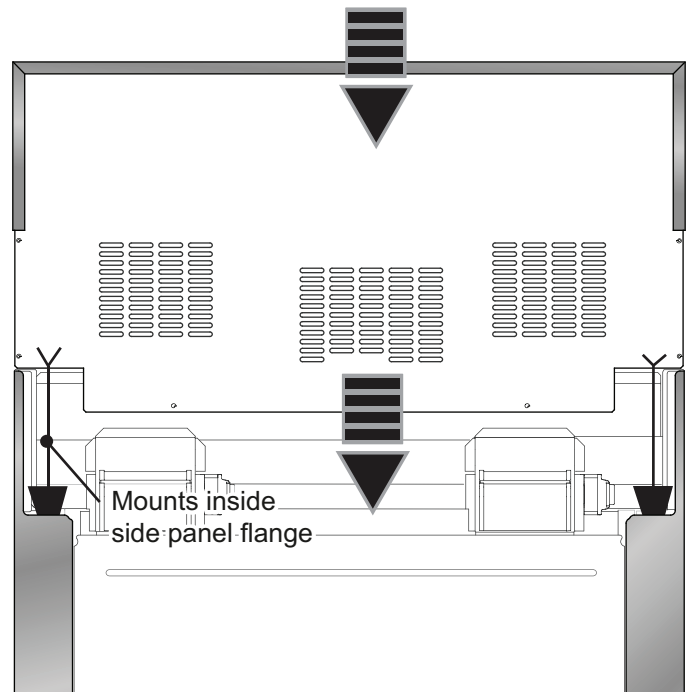

Figure 19: Backguard Installation
3. Align the back panel of the new accessory with the flanges on the range side panels right and left rear corners. The backguard is inserted inside the guide channels on the back of the range (Figure 19).